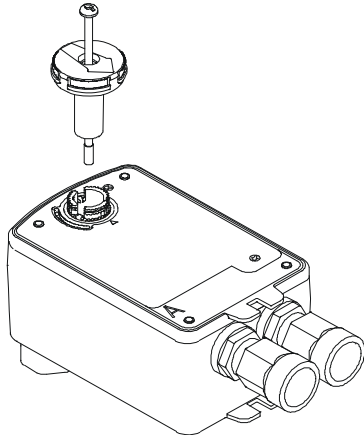

Figure 8: Installing the Fixed Pointer
5. Insert fixed pointer and M4x0.7x83 mm long screw into the Side A actuator hub (Figure 8). Direct the arrow on the pointer to 100%.